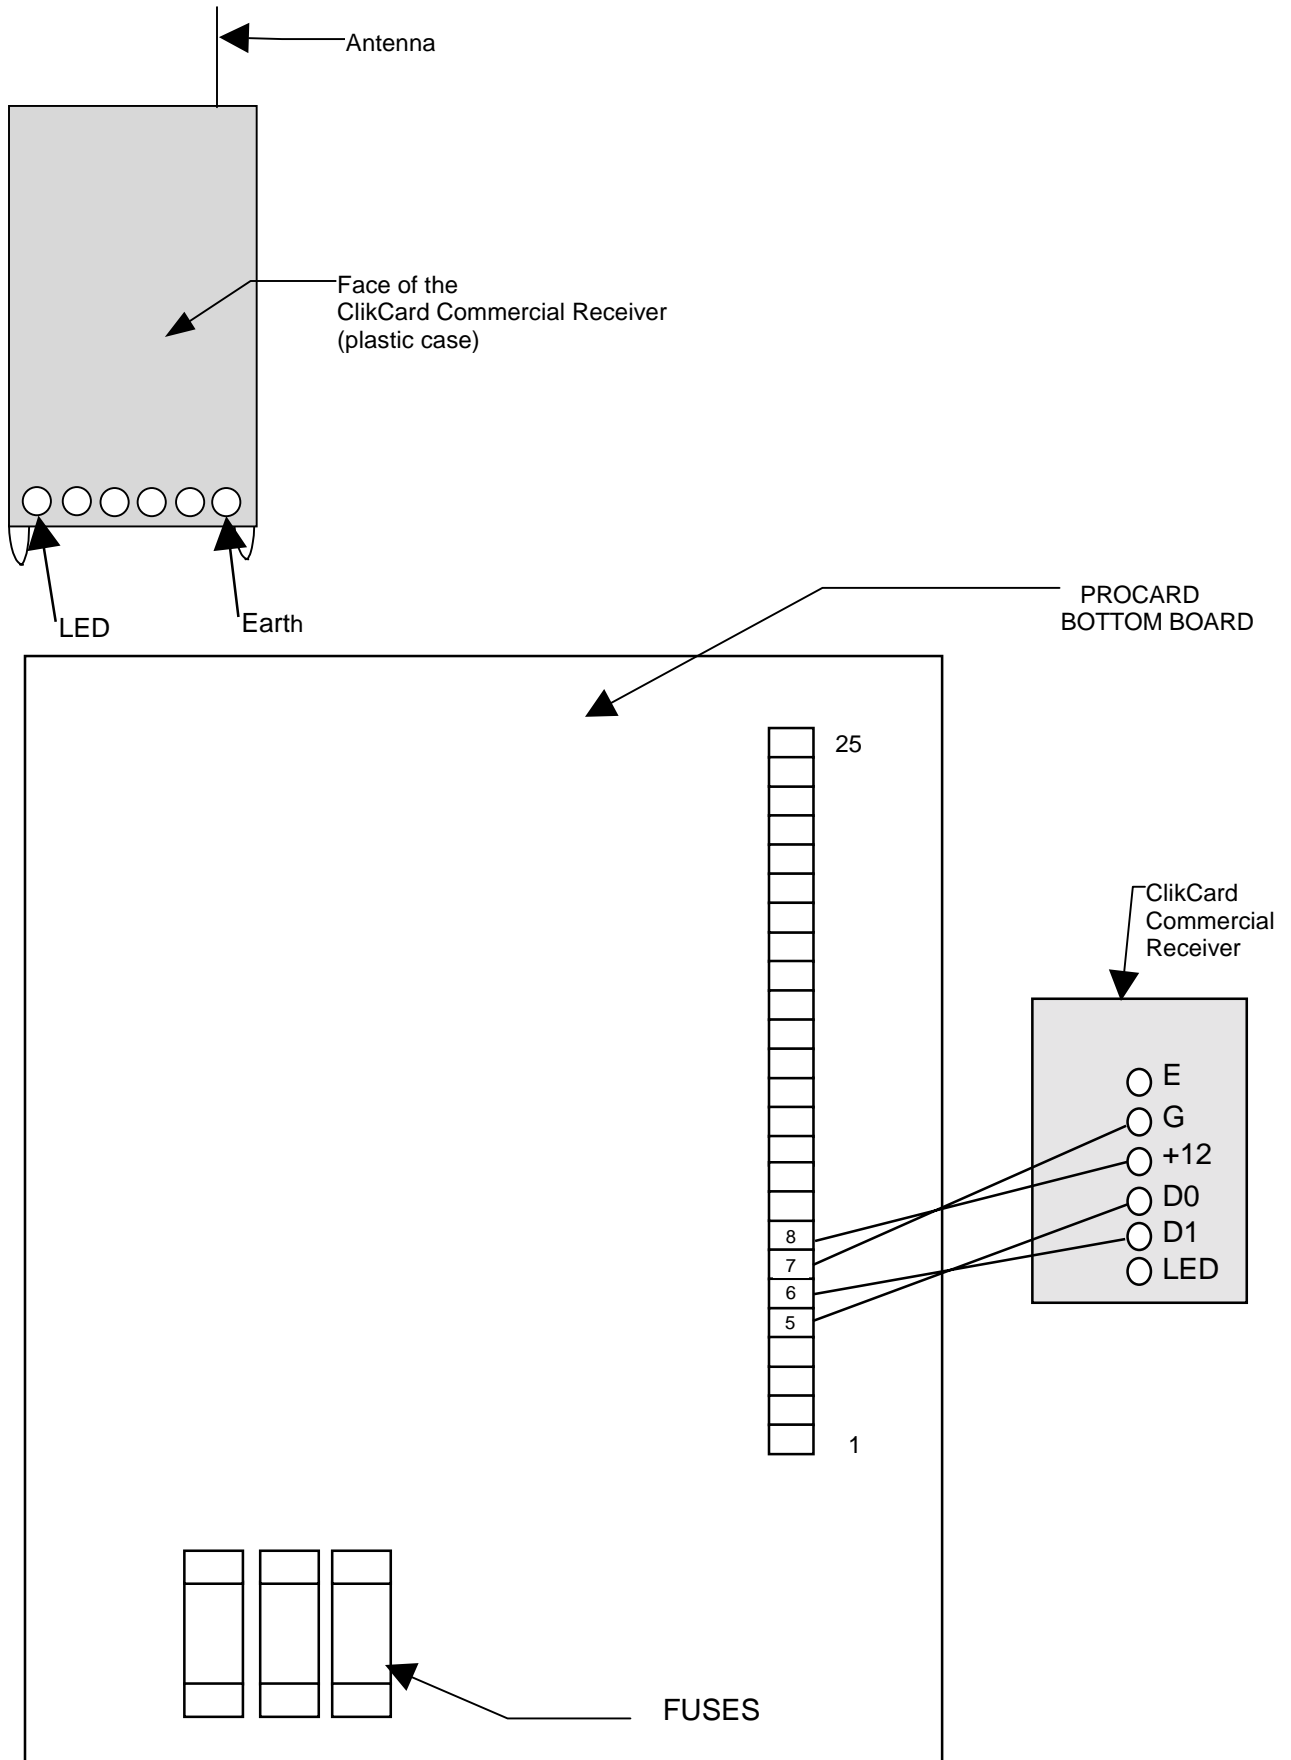

FIGURE 2
1. Connect the Commercial Receiver cable to the PROcard, according to the following color scheme if possible, and reinstall it on the terminal block pins. (See figure 2.)